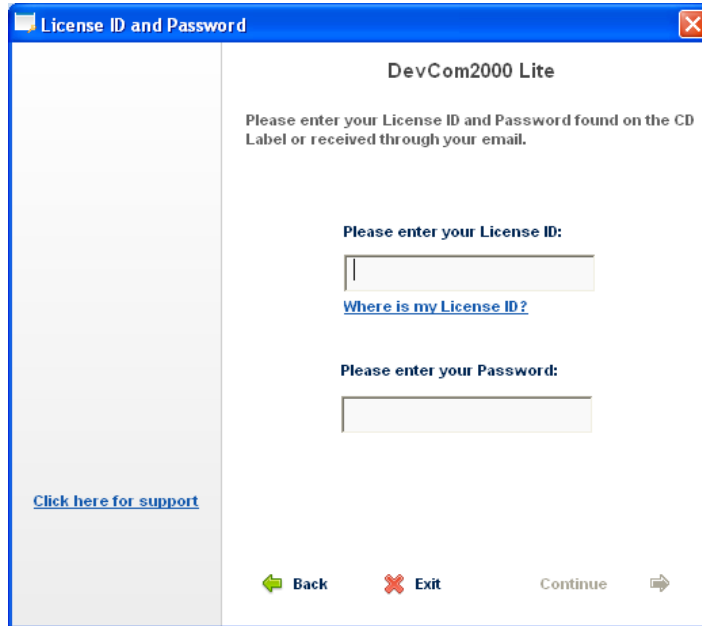

Figure 2 Activation Screen
| Figure 2 Activation Screen..... | 6 |
- The license ID and Password will be included in the email with the link to download the software. Enter this information in the Activation Screen (See Figure 2) and click “Continue”.